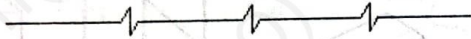

Figure 6
10. Identify the type of line shown in Figure 6 below.